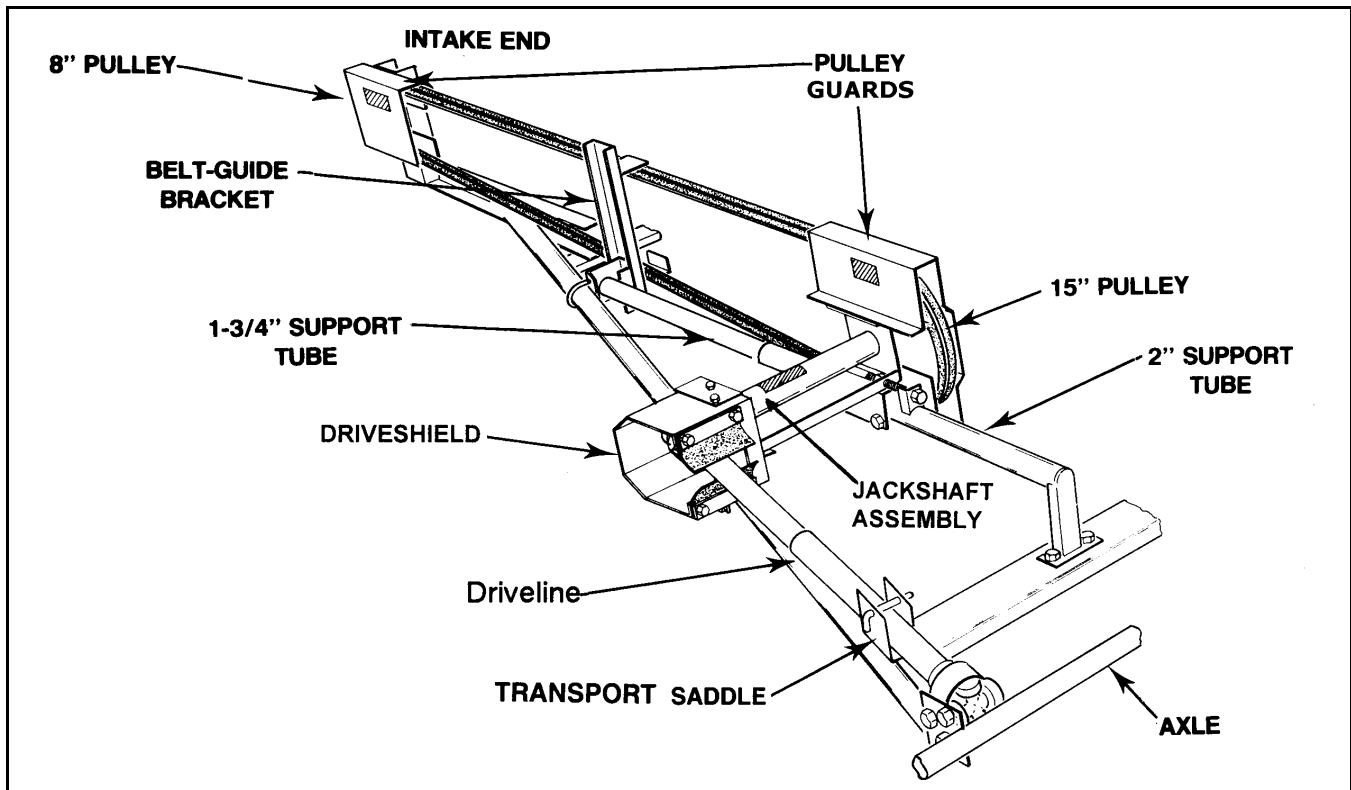

Figure 3.20
14. Attach belt-guide bracket to the 1-3/4" support tube as shown in Figure 3.20. Adjust belt guides within 1/8" to 1/4" of belt(s) when belt(s) are under tension.
2. Slide non-spline end of PTO driveline onto the jackshaft using a 1/4" x 1-1/2" square key. Tighten set screws securely (Figure 3.20).
4. Attach transport saddle for the PTO driveline to lower reach arm bracket with one 7/16" x 2-1/4" bolt and locknut (Figure 3.20).
See Figure 3.20.
4. Disconnect PTO driveline from tractor and secure in transport saddle with the u-joint in the down position at the axle when transporting. See Figure 3.20.